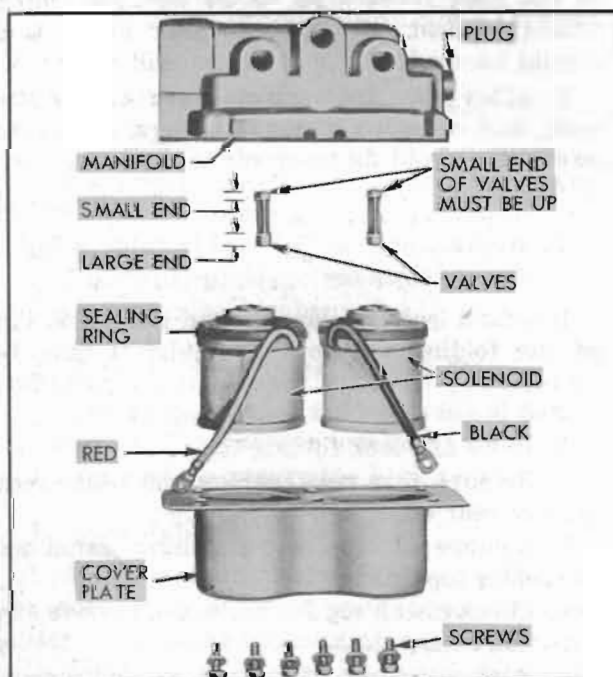

Figure 13-64—Top Control Valve Disassembled
1. Remove solenoid cover plate, then remove each solenoid by rocking gently until the rubber sealing ring is freed from the pressure manifold. See figure 13-64.
5. Insert both valves into pressure manifold, *small end first*. See figure 13-64. CAUTION: *If one valve is installed with large end first, the top will operate in one direction only and cannot be manually moved in either direction. If both valves are inverted the top cannot be operated by power or manually in either direction.*
6. Install solenoid with *red* wire in manifold opening nearest the pressure and return pipe ports and install solenoid with *black* wire in opening nearest the access hole plug. Use care to avoid damaging the rubber sealing rings during installation. See figure 13-64. Install solenoid cover plate.